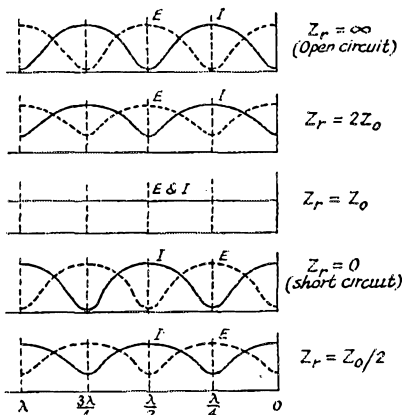

Fig. 4 — Standing-wave distribution when the line is terminated in pure resistances of different values.
In Fig. 4, the current and voltage waves are shown for different terminating impedances which are pure resistances (the effect of reactance terminations was shown in Fig. 3-A and 3-B). It will be noted that the points of minimum current agree with the two equations, (3) and (4), as the value of Z_r is either greater than or smaller than the surge impedance, Z_0 . Curves for a great variety of load impedances were shown in a previous issue of *QST*.²